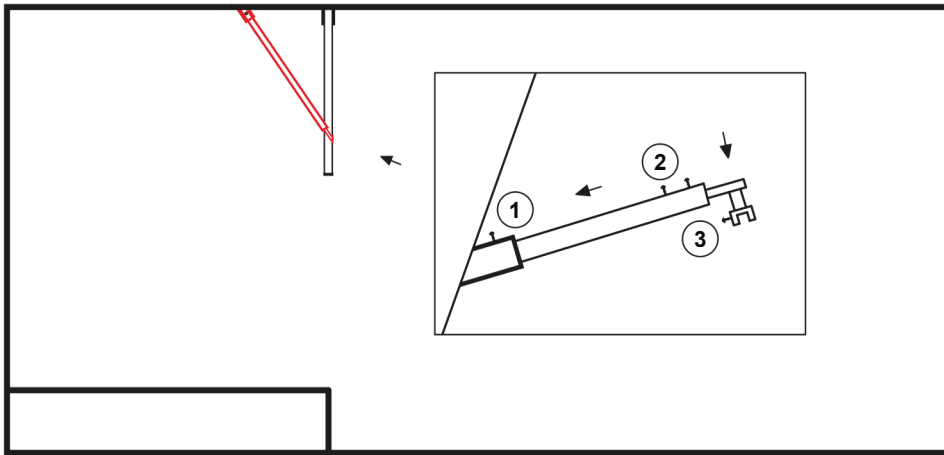
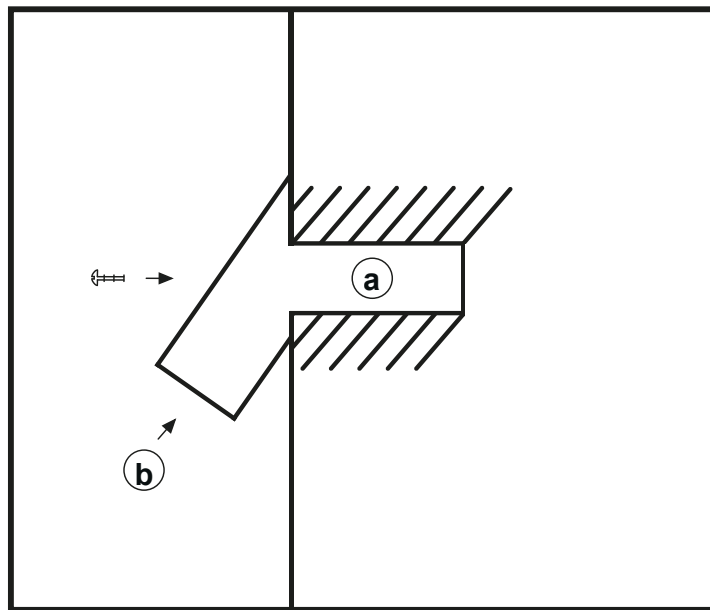

Figure 9: Top view
Figure 10: Top view
20. Place the included gaskets into the mounting clamp (3), between the parts that go over the glass and U-profile, to ensure the glass does not touch the metal. (Figure 9)
22. Mark on the wall where the mounting hole (a) needs to be drilled and remove the telescopic tube. (Figure 10)
24. Unscrew the screw (1) on the telescopic tube (see Figure 9) and remove the wall-mounted part (b) (see Figure 10).
26. Take the telescopic tube and carefully insert it into the wall mount (b) (Figure 10) and rest the other end (3) (Figure 9) on the planned location, on the glass and the U-profile.
34. Tighten and secure the telescope screw (1). (Figure 9)